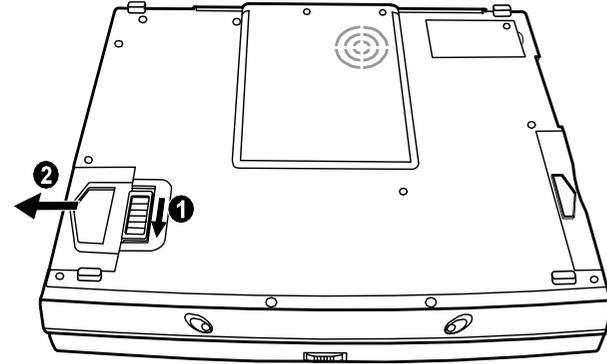

Figure 5-7. Removing the Battery Pack
1. Fit the battery pack into the compartment. Make sure the locking latches are in the locked position. (Refer to Figure 5-7)